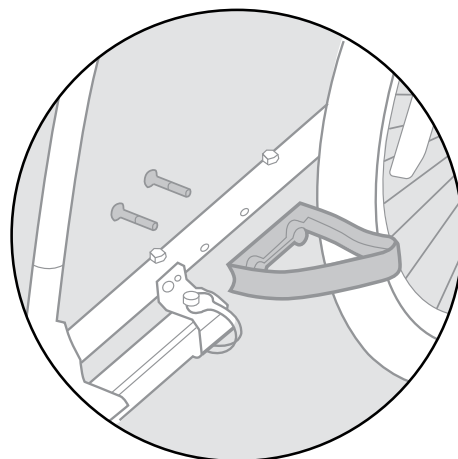

Figure 3
1. Insert wheel guard bolts through frame tube. Match holes in wheel guards to bolts. Tighten securely with hex key (Figure 3).